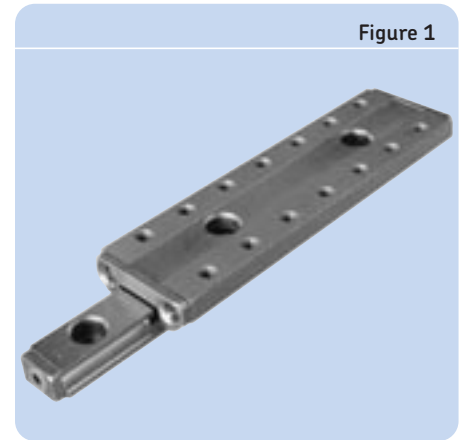

Figure 1
- Miniature slides (→ **figure 1**);